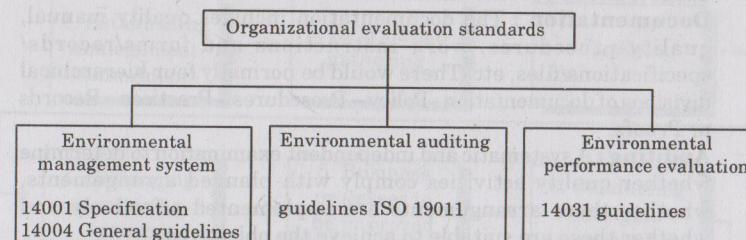

Fig. 5.15.1. Organizational evaluation standards.
1. These standards as shown in Fig. 5.15.1 and consist of three categories : Environmental Management System (EMS), Environmental Auditing (EA), and Environmental Performance Evaluation (EPE).